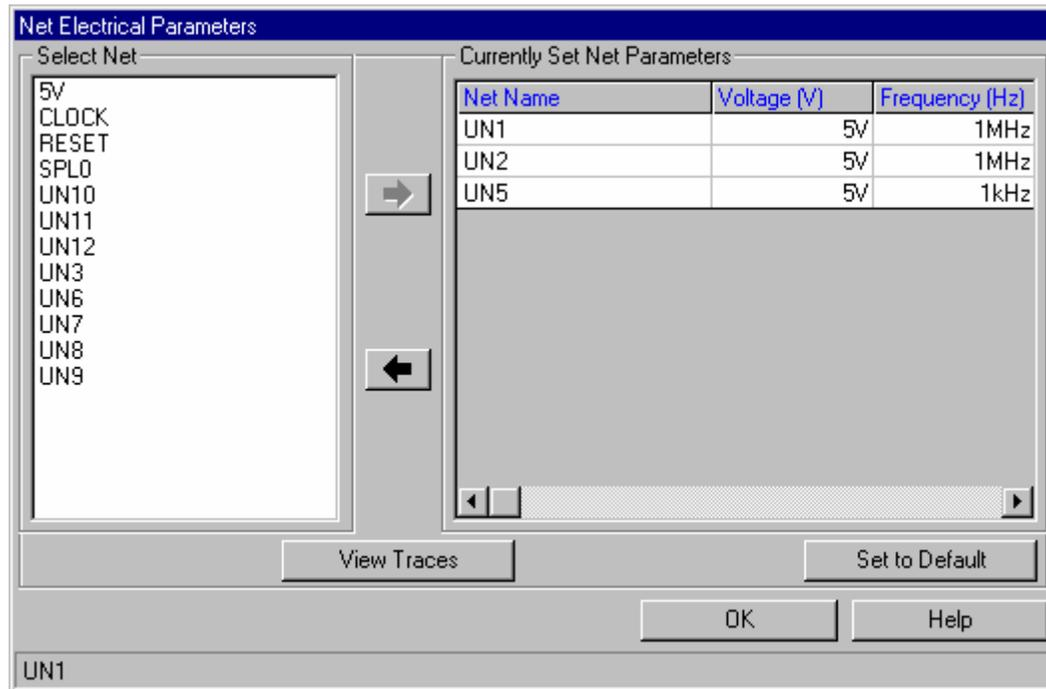

Fig. 9.5
- If you select the SET TO DEFAULT button, the default parameter gets loaded into the text boxes (Refer Fig.9.5).